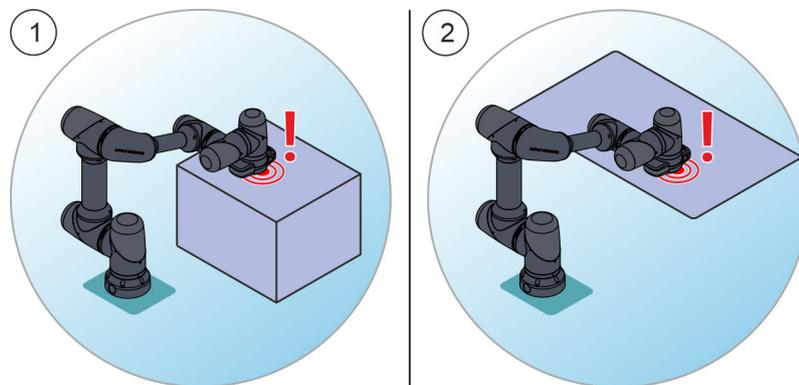

Fig. 37 Working area and hazard area with safety areas
If the end effector or the elbow joint on the robot enters a safety cuboid **Fig. 37/①** or a safety plane **Fig. 37/②**, the robot behaves as follows, depending on the safety configuration: